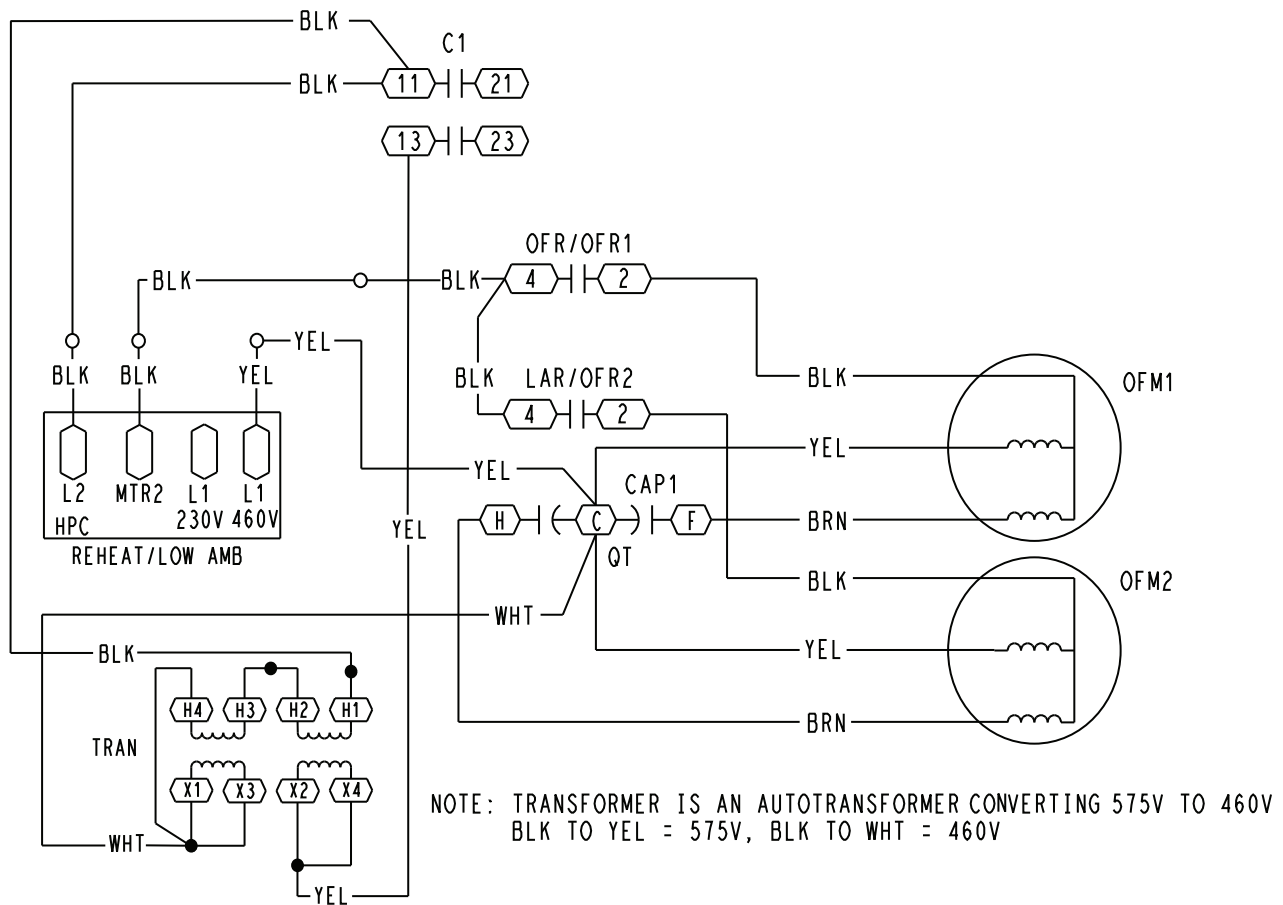

Fig. 6 — High Voltage Wiring Diagram for 48/50FC, 582K/559K, RGV/RAV (575-v)
13. On 575-v units, refer to the transformer kit instructions for details on how to wire the transformer into the unit to match Fig. 6.
IMPORTANT: The transformer as wired in Fig. 6 has BLK to YEL=575-v and BLK to WHT=460-v.